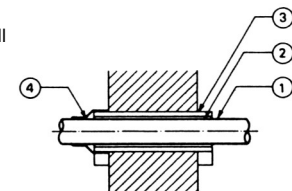

Fig. 15
3.6.4.2 Wall penetration of pipes above ground must be carried out with casing pipes, so that the space between the casing pipe and the gas pipe is protected against seepage of water, for example as indicated in Fig. 15.